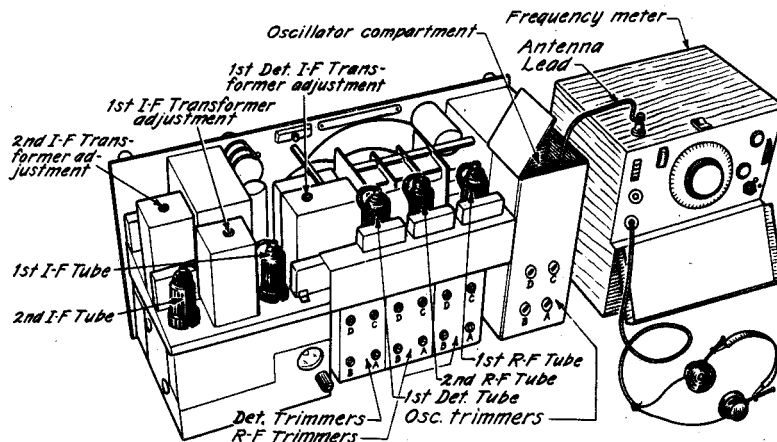

Fig. 1.—Coupling the antenna from Frequency Meter SCR-211-(*) to oscillator compartment for i-f alignment. See text. Also, location of r-f alignment trimmers.
- Plug phones into frequency meter, and insert the end of antenna lead from the frequency meter into receiver oscillator compartment (open hinged cover) so that its end (no conductors exposed) lies close to the stator plates of the oscillator tuning capacitor section. See figure 1.
- Tune frequency meter to 92.5 kc above the frequency at which the receiver dial is set for (if 200 kc, $200 + 92.5$ or 292.5 kc), then slowly tune the frequency meter dial back and forth, about 15 kc, until a varying beat frequency note is heard in the phones. When zero beat is heard in the phones, cease tuning, and note the point on the frequency meter dial at which zero beat is heard. Consult the frequency meter calibration book for the frequency. If the frequency obtained is not 92.5 kc more than the frequency indicated by the receiver dial, adjust the receiver oscillator trimmer (see fig. 1) in small steps until a zero beat is heard in the frequency meter headset exactly 92.5 kc above receiver dial setting.